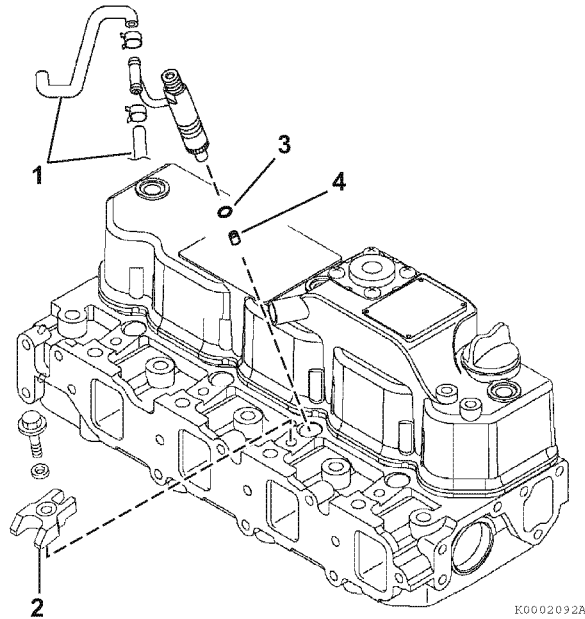

Figure 7-51
3. Remove the return fuel hoses (Figure 7-51, (1)) from one side of each fuel injector.
4. Remove the bolts and washers that secure the fuel injector retainers (Figure 7-51, (2)) to the cylinder head.
7. Remove the injector nozzle protector (Figure 7-51, (3)) and seat (Figure 7-51, (4)) from the cylinder head.